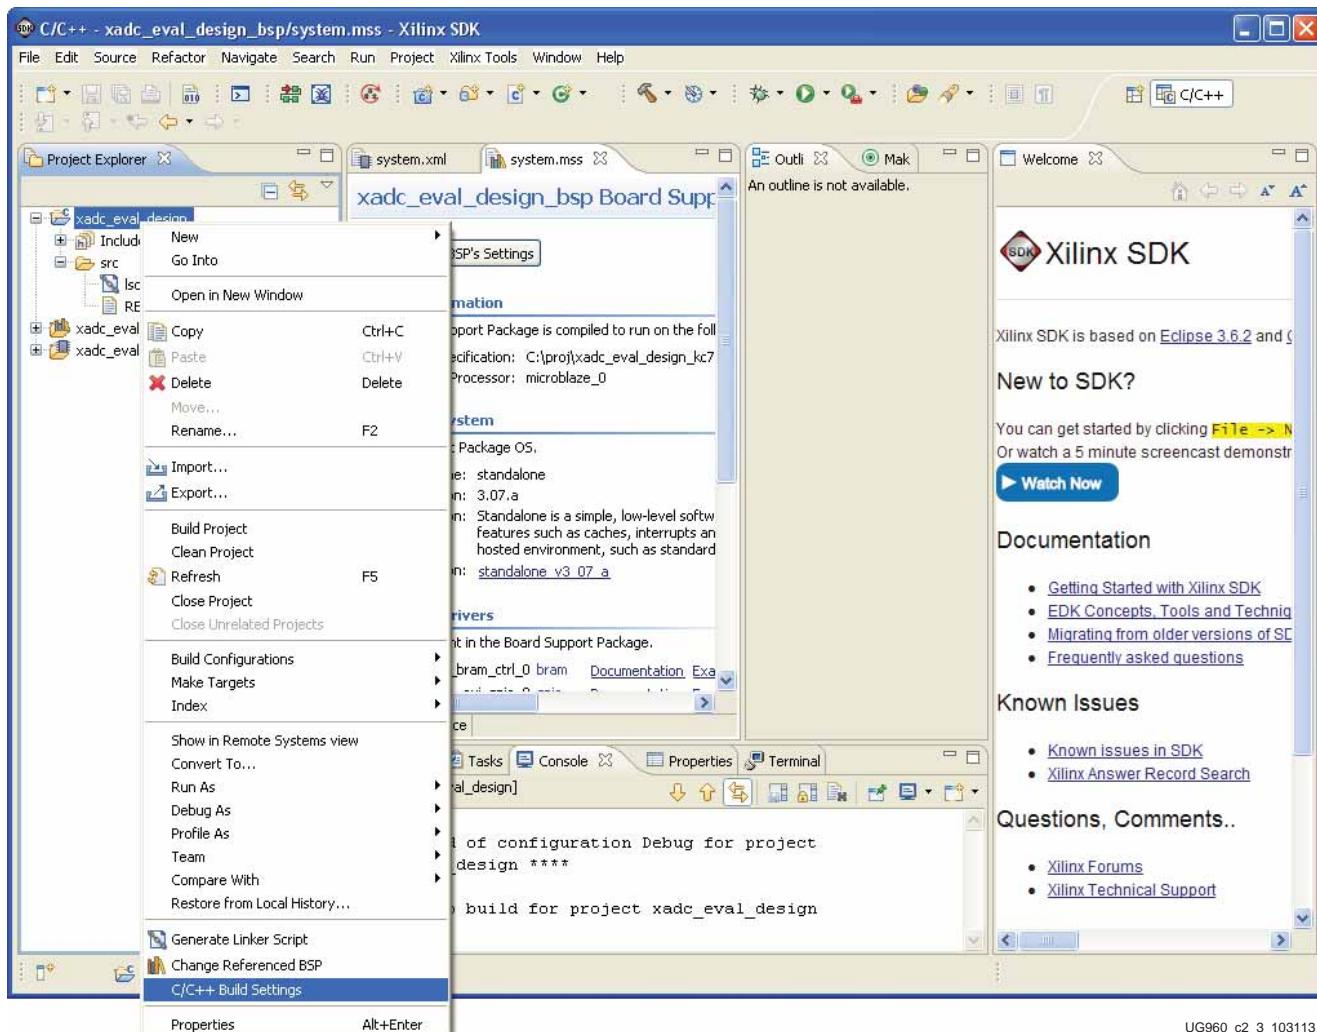

Figure 2-31: Selecting C/C++ Build Settings
12. Right-click `xadc_eval_design`. Select **C/C++ Build Settings** as shown in Figure 2-31.